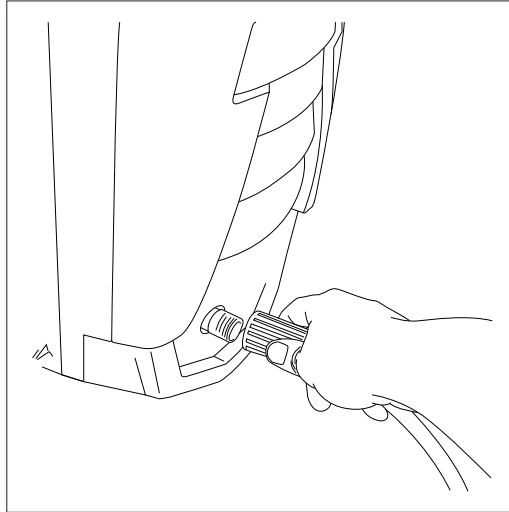

Fig. 4
- Screw the high pressure hose (clockwise) on the front of the unit at the bottom (**Fig. 4**). Pull back the collar and insert o-ring post into the water outlet far enough so the collar can thread onto the outlet threads until hand tight. Do not use pliers or vice grips to tighten. If it takes fewer than six or so turns you have not properly tightened the high pressure hose fitting. It is easier to position the power washer in front of you so to ensure that the threads are started correctly. Failure to properly tighten the high pressure hose will result in the hose slipping or popping off immediately upon turning the unit on. Do not worry about damage if this occurs - just reinstall and take extra care at screwing on the high pressure hose fitting.